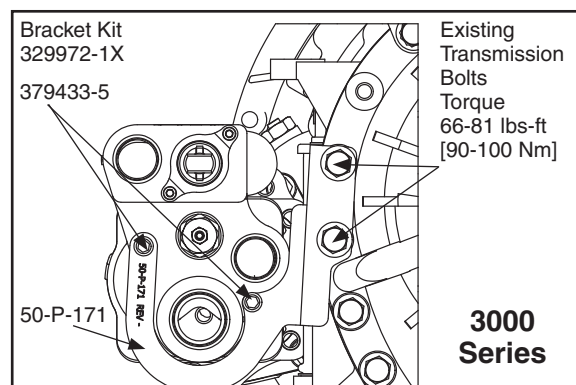

Fig. 9
2. Install bracket to transmission using the existing transmission bolts in approved locations (**Fig. 9**). Slightly tighten, but do not fully torque to allow alignment of all mounting holes.